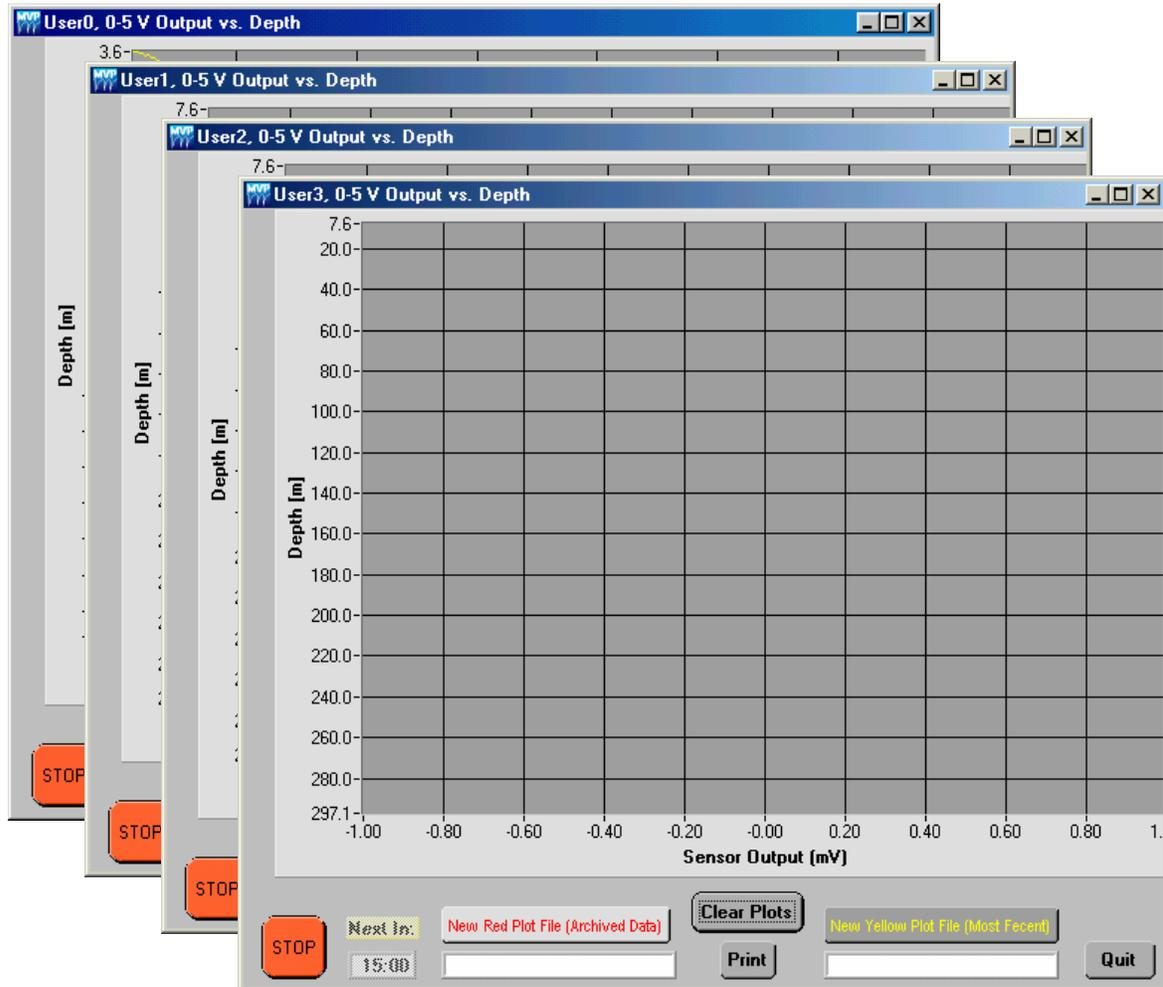

Figure 11: Sensor (mV) vs. Depth Graph
*Sensor (mV) vs. Depth* graphs (Figure 11) is a plot of the raw voltage(s) output by the 0-5V auxiliary sensors. The AML CTD+ (special order) accepts 1 auxiliary 0-5V sensor that is designated as User0. A multi-sensor fish and DTM/Mux can accept up to 3 x 0-5V sensors (User1 – User3). The output of each auxiliary sensor is displayed in its own graph.